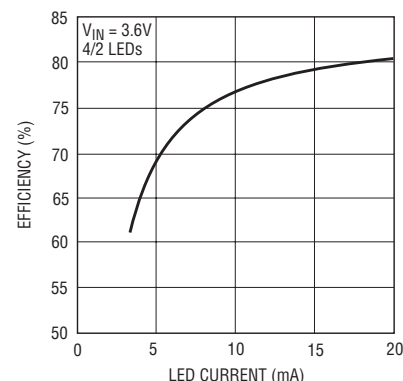

Figure 4. Efficiency for Figure 3's circuit
1.25MHz switching frequency via the selection of the R_T resistor. The choice of high 1.25MHz switching frequency allows the use of space saving low-profile inductors and tiny 0805 size ceramic capacitors, while maintaining high system efficiency. Figure 4 shows the efficiency of the circuit. The typical efficiency at 3.6V input supply is 81% with both the LED strings being run at 20mA.